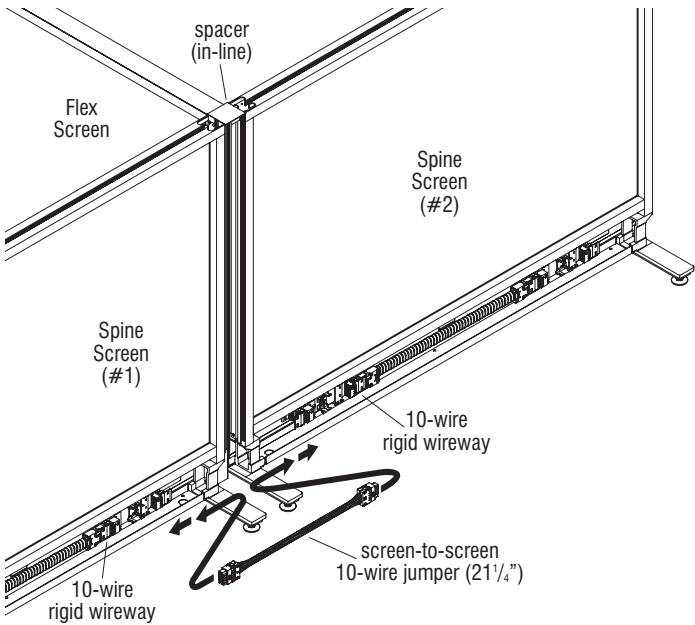

Figure 41
7. At the location specified for a screen-to-screen jumper between the spacer, route the jumper through the pass-through ankles at each end of the Spine Screen, then plug the ends into each rigid wireway of the powered Spine Screens (Figure 41).
8. Route the 10-wire base power infeed plug end of the infeed through the pass-through ankle and plug it into an open end of a 10-wire rigid wireway (Figure 41).
9. On the rib side of the spacer cover, space molding clips evenly apart and press them onto the ribs of the cover (Figure 41 & Detail BBB).